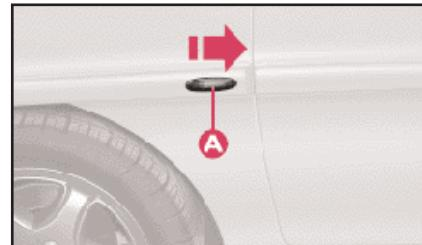

fig. 15
- 1) Push the lens **A** (fig. 15) in the direction of the arrow to release the fastening tab. Be careful not to damage the bodywork.